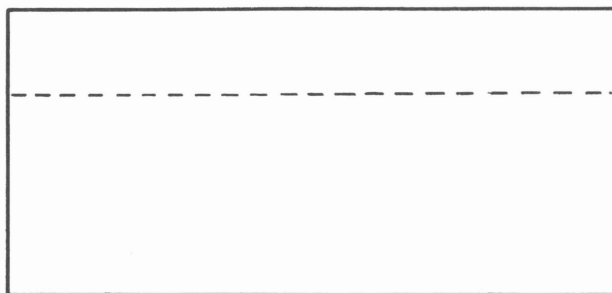

Figure 33. Making and applying sleeve heads.
2. Mark a line 1 inch (2.5 cm) from one long edge (Figure 33).